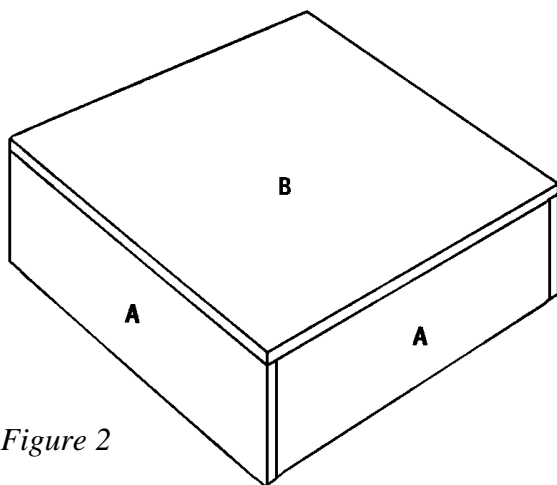

Figure 2
3. Cut one Lower Bottom (B) from 3/8"-thick plywood, measuring 5-1/8 x 14-3/4 inches. Place the Lower Bottom (B) over the edges of assembled Lower Box Sides (A) as shown in *Figure 2*. Apply glue to the meeting surfaces and nail through the Lower Bottom (B) into the Lower Box Sides (A) using five 1" nails on each side.
3. Cut one Lid Top (D) from 3/8"-thick plywood, measuring 14-3/4 x 15-1/8 inches. Place the Lid Top (D) over the edges of assembled Lid Sides (C), as shown in *Figure 2*. Apply glue to the meeting surfaces and nail through the Lid Top (D) into the Lid Sides (C), using four 1" nails on each side.